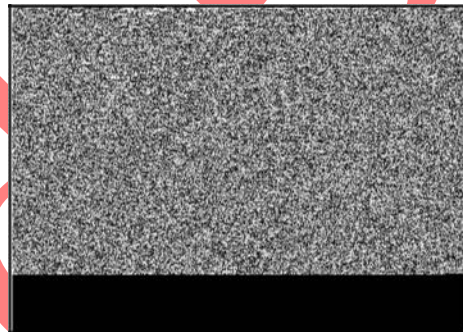

Figure 24
5. Support valve side of cylinder head on clean shop rags. Place valve springs and valve spring retainers over valve stems. Using thumbs, press against each retainer until it securely locks into groove in valve stem (A, Figure 24).